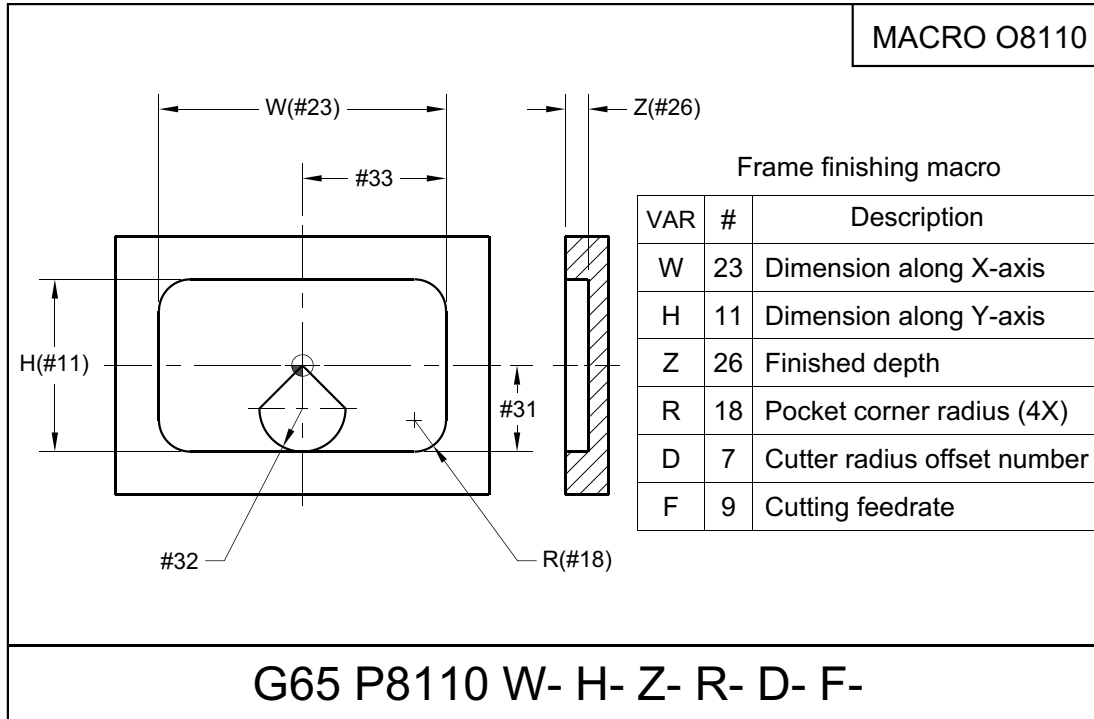

Figure 51
Items 1 and 8 will be included in the main program, items 2-7, as well as various checks and calculated values, will be part of the macro. Figure 51 illustrates the assignment of variables.